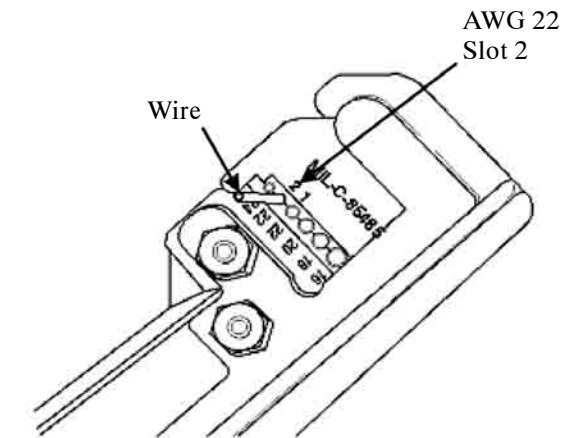

Figure 7. Step Stripping Primary Insulation AWG 22
- (4) Using the 22 AWG hole with the "2", remove the primary insulation, exposing the conductor (Figure 7).